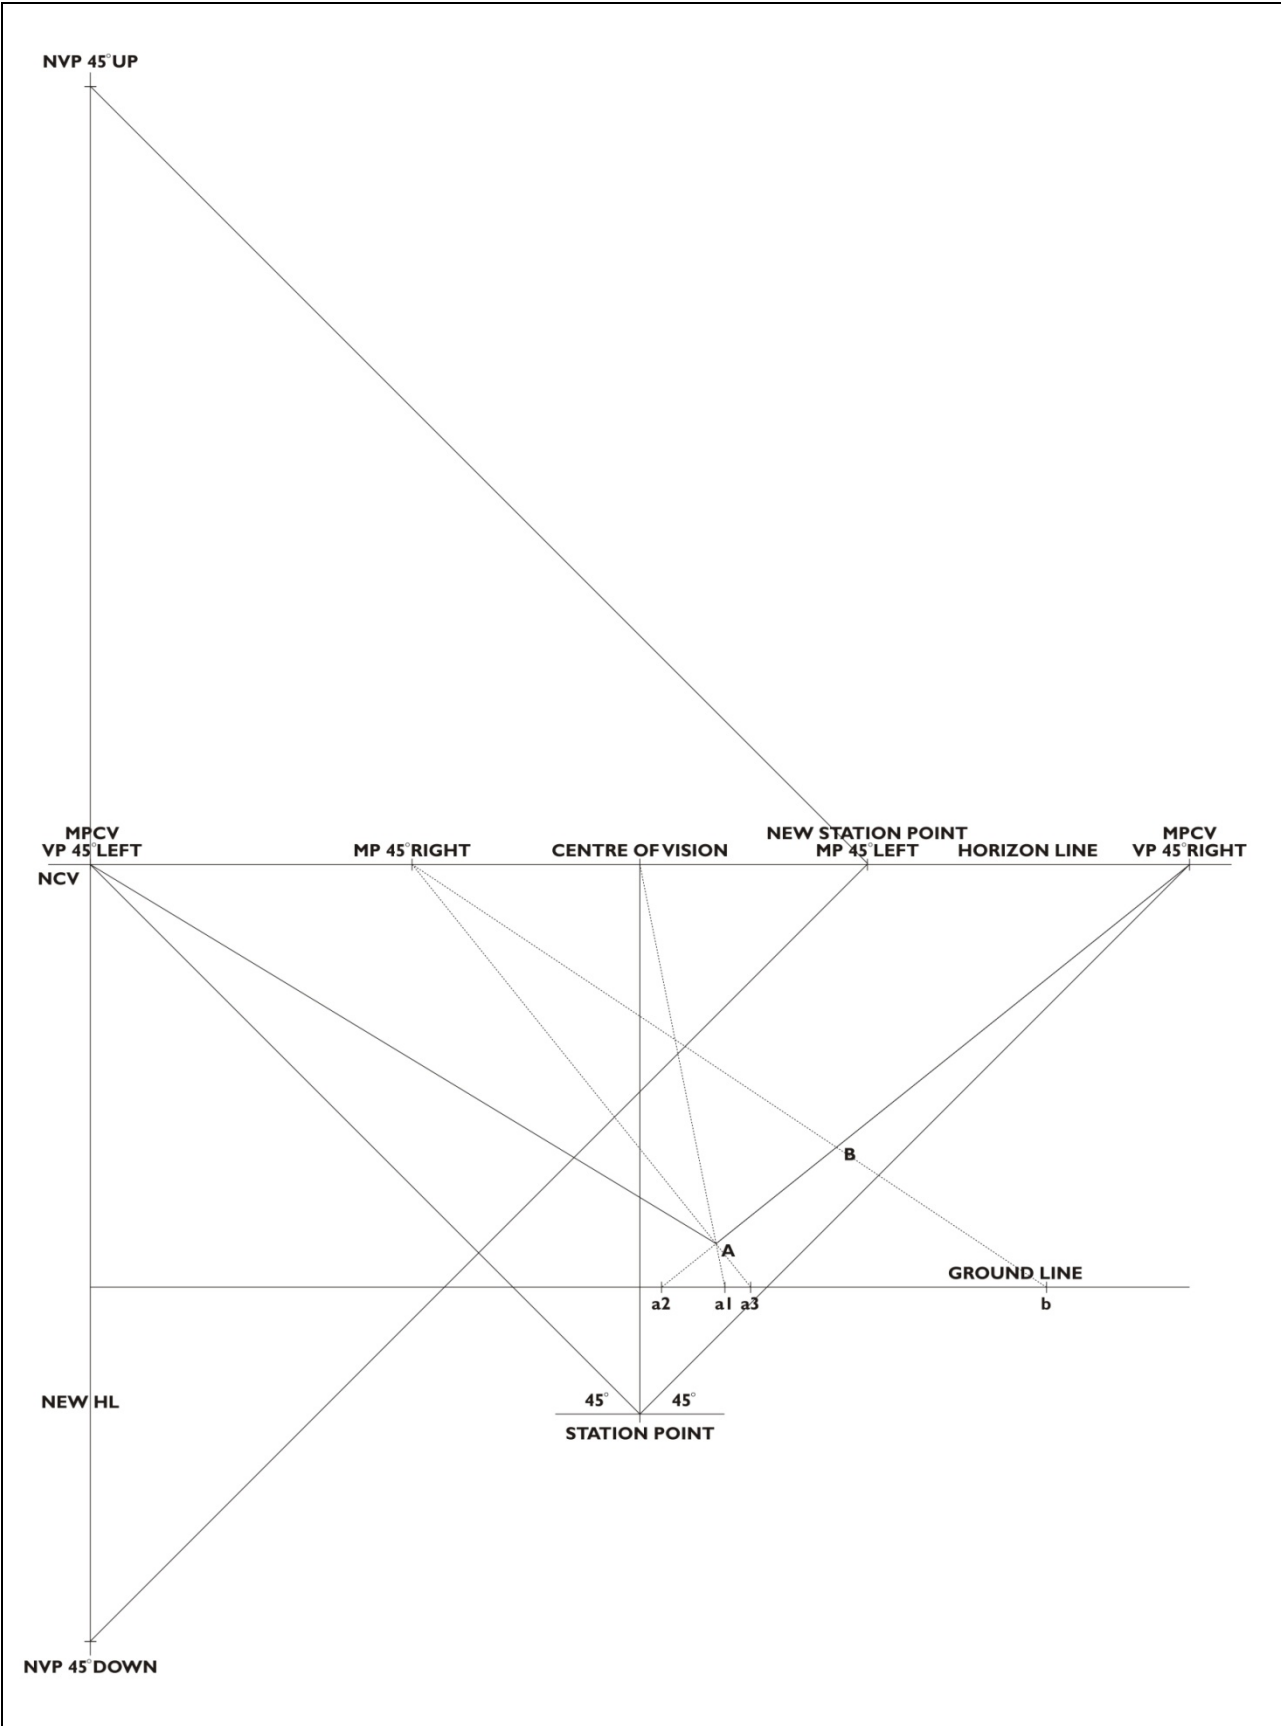

Figure 4.7 Three-point perspective establish length of one side
1. To create the base of the box on the ground line, draw a line from point A to VP 45° Right. Refer to Figure 4.7 for information.